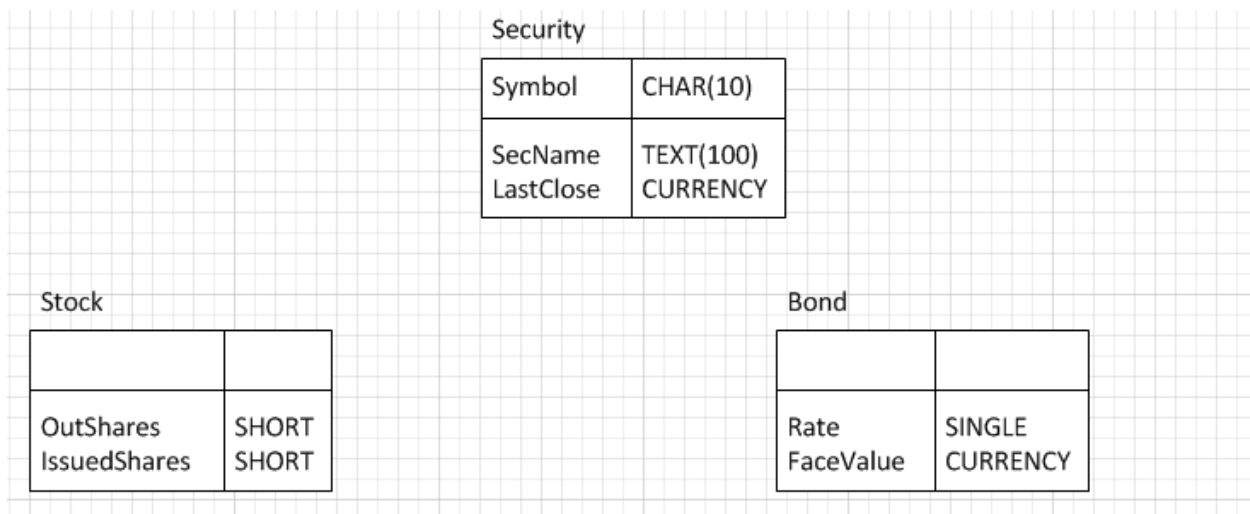

Figure 54: *Security*, *Stock*, and *Bond* Entities with Data Types Displayed
1. Create Entities and Add Columns: Create the *Security*, the *Stock*, and the *Bond* entities. Note that the last two entities do not have primary keys since they will be inherited from the *Security* entity. When you are finished, the entities should appear as shown in Figure 54.